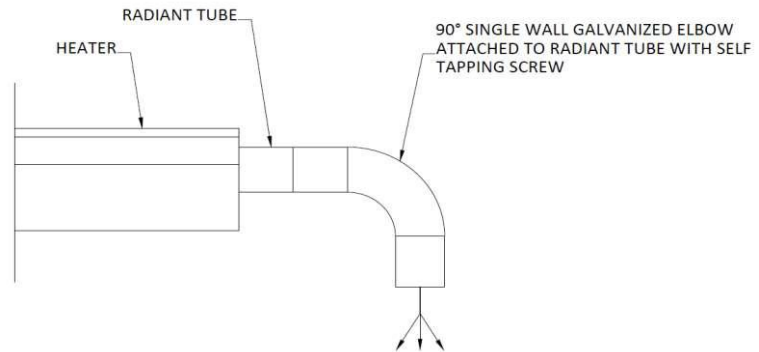

Figure 36. UNVENTED INSTALLATIONS
- 1) A 4" (10.2 cm) diameter by 90° elbow must be attached to the flue, vent or exhaust end of heater and turned down pointing towards the floor. (see Figure 36)